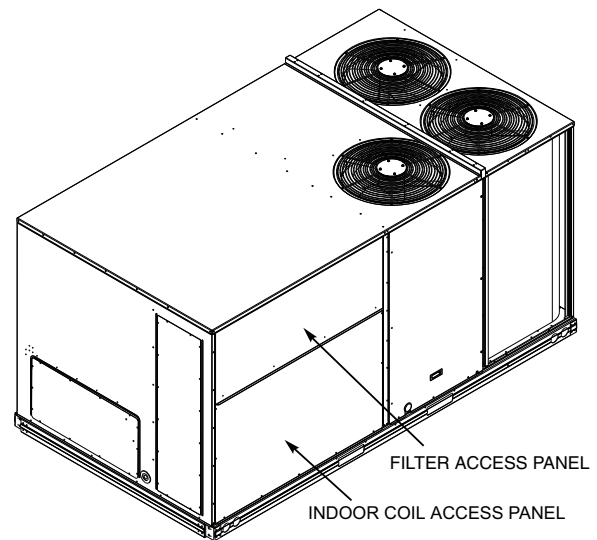

Fig. 21 — Typical Access Panel Locations (Size 16 Shown)
2. To gain access to the hood, remove the filter access panel. (See Fig. 21).
2. To gain access to the hood, remove the filter access panel (see Fig. 21).
2. To gain access to the hood, remove the filter access panel. See Fig. 21.